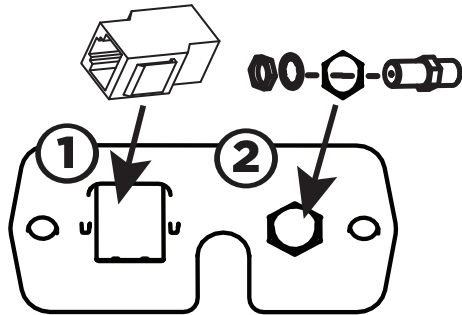

Figure 9
2. **For touchscreen consoles:** Install the coax coupler, star washer, and nut into the jack plate on the lower panel and tighten (Figure 9).
3. Connect the coax cable to the inside end of the coax coupler ②. Tighten the connector using a 7/16-inch open-end wrench.
4. Attach the Ethernet coupler ① into the jack plate on the lower panel (Figure 9) and plug the Ethernet cable into the coupler.